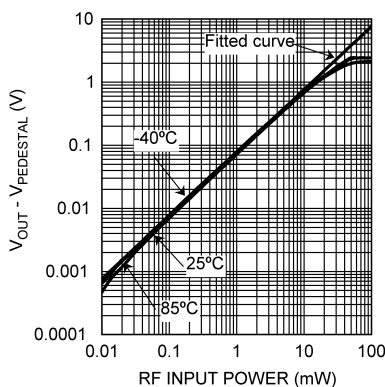

**Figure 21. Typical Application**
The LMV232 is especially suited for CDMA and WCDMA applications with 2 Power Amplifiers (PA's). A typical setup is given in Figure 21. The output power of one PA is measured at a time, depending on the bandselect pin (BS). If the BS = High RFIN1 is used for measurements, if BS = Low RFIN2 is used. The measured output voltage of the LMV232 is read by the ADC of the baseband chip and the gain of the PA is adjusted if necessary. With an input impedance of 50Ω, the LMV232 can be directly connected to a 20 dB directional coupler without the need for an additional external attenuator. The setup can be adjusted to various PA output ranges by selection of a directional coupler or insertion of an additional (resistive) attenuator between the coupler outputs and the LMV232 RF inputs.
These three sections are leading back to three error mechanisms. At higher power levels the detectors output starts to saturate because the output voltage approaches the maximum signal swing that the detector can handle. The maximum output voltage of the device thus limits the upper end of the detection range. Also the maximum allowed ADC voltage of the baseband chip can limit the detection range at higher power levels. By adjusting the feedback resistor  $R_{FB}$  of Figure 21 the upper end of the range can be shifted. This is valid until the detector cell inside the LMV232 is the limiting factor.
The calibration measurement procedure can be explained with the aid of Figure 21, which depicts a typical power measurement setup using the LMV232. In normal operation, the two PA's in the setup will never be active at the same time. One PA will produce the required transmit power, while the other one is off, (disabled) and produces no power. The pedestal voltage should be measured in the absence of RF power. This can be achieved by switching the Band Select (BS) pin such that the LMV232 input is selected where the disabled PA is connected to. The pedestal voltage at no input power can be read at the output pin.